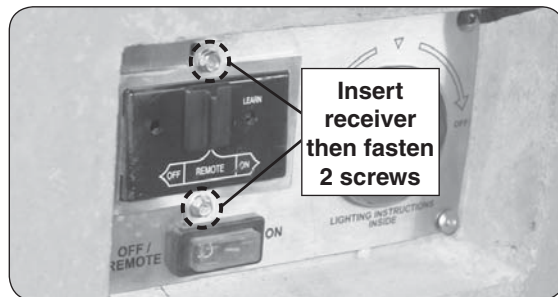

Fig. 27-1 Remove remote receiver assembly
5. Use a  $\frac{1}{4}$ " nut driver to unfasten the remote receiver bracket assembly found on the control panel (2 screws). Then carefully remove the assembly. See Fig. 27-1.